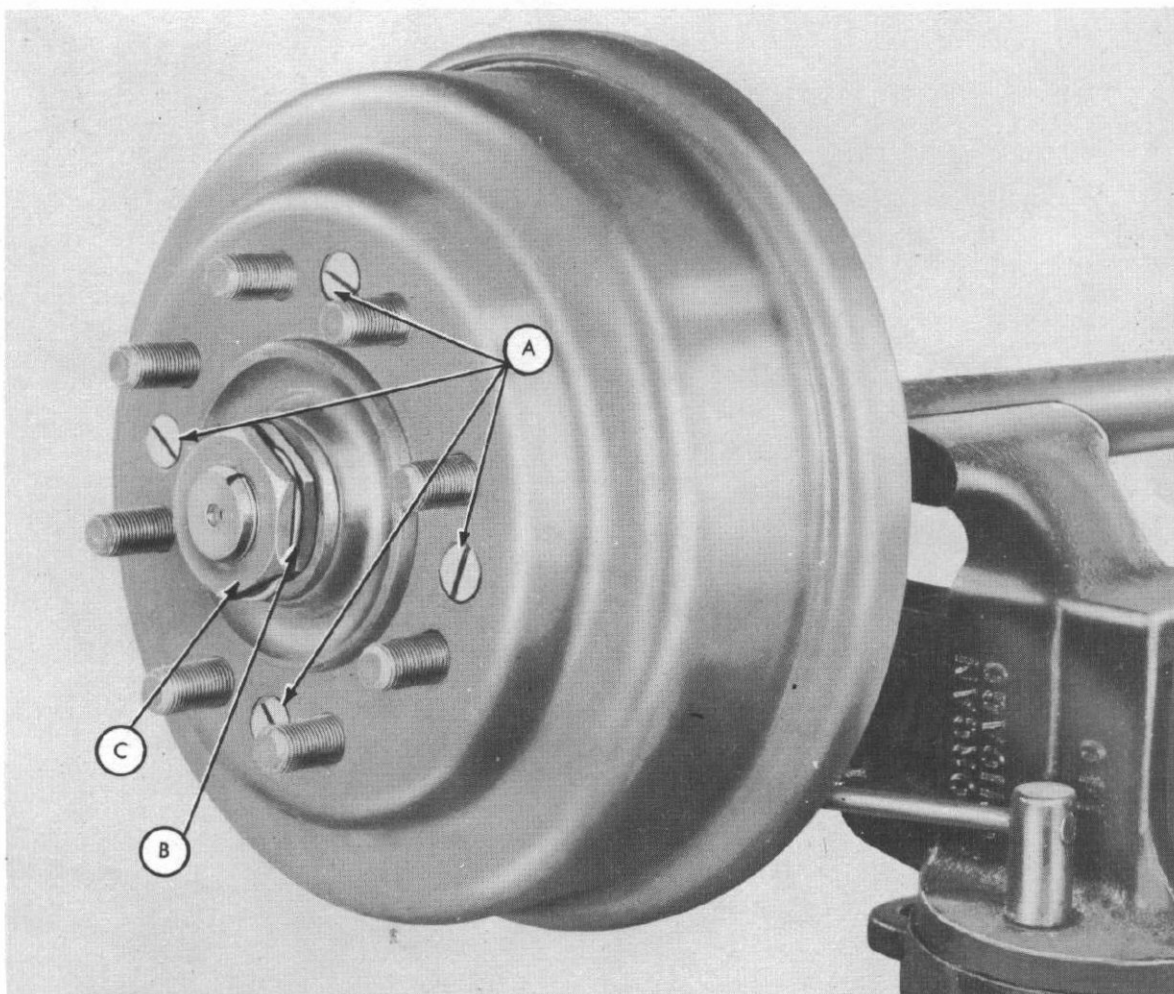

Fig. 1
Step 1—Position the rear axle and brake assembly in a vise as shown in Figure 1.
Step 2—Remove the brake drum by removing the four (4) flat head screws (A-Figure 1).
Step 3—Remove the rear axle nut snap ring (B-Figure 1) and axle nut (C-Figure 1).